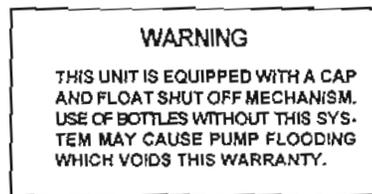

Figure 1-5. Warning imprint.
(3) A warning imprint (located on the top right side of the base assembly) is depicted in figure 1-5.